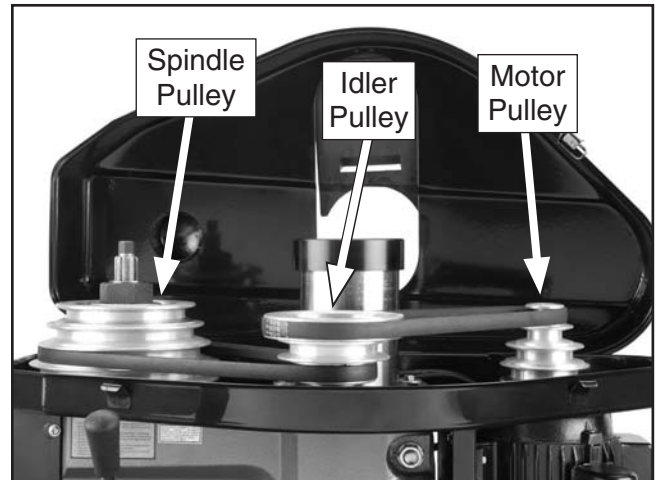

Figure 30. V-belts configured for a spindle speed of 140 RPM.
4. Configure the V-belts as needed for the chosen spindle speed. **Figure 30** shows an example of a V-belt setup for a spindle speed of 140 RPM.